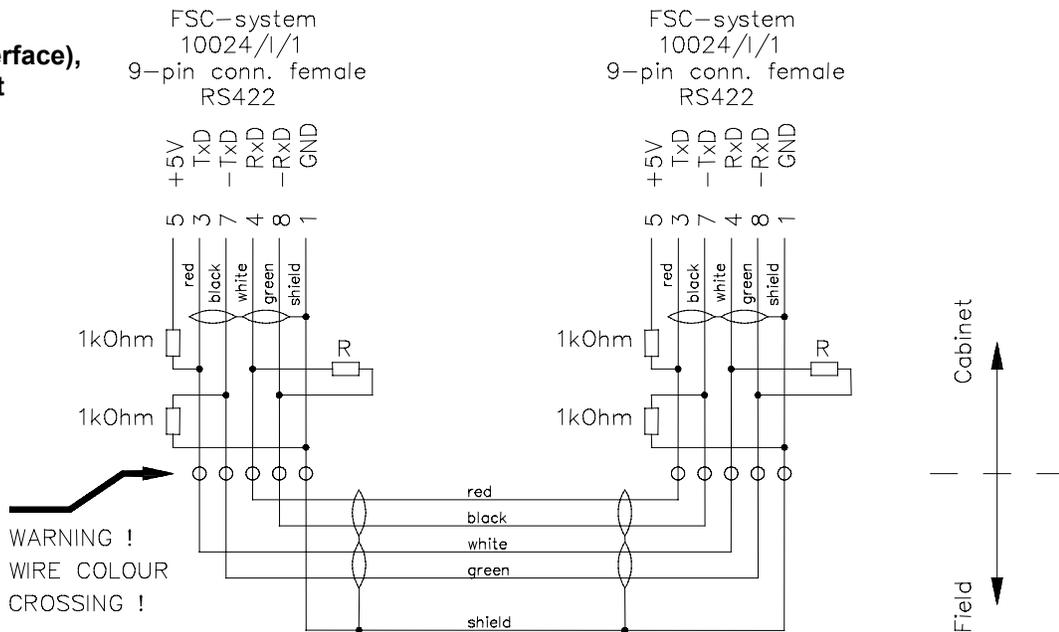

Figure 11 Connection between two FSC systems: point-to-point RS-485 link (using an I-interface)
- Point-to-point, duplex (see Figure 11)